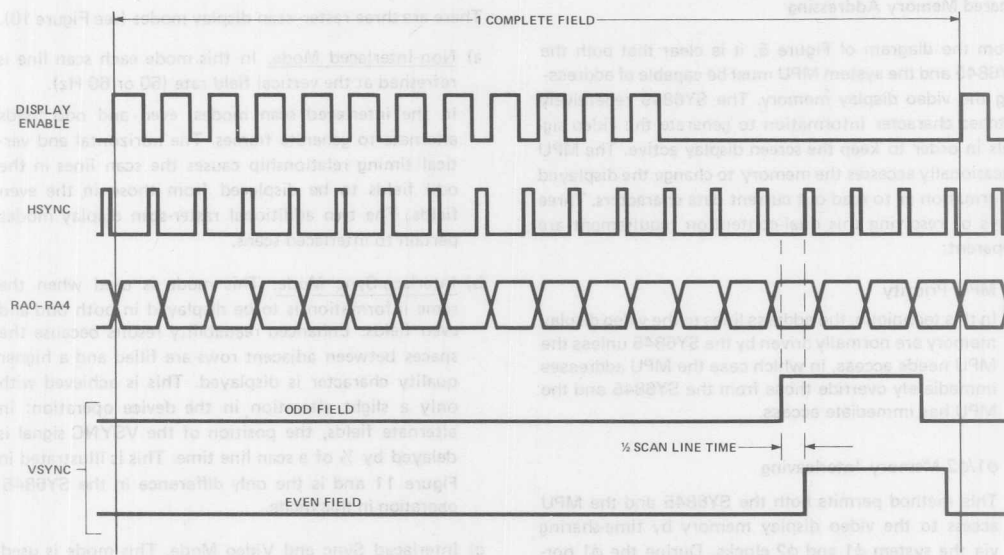

Figure 11. Interlace-Sync Mode Timing
- b) Interlace-Sync Mode. This mode is used when the same information is to be displayed in both odd and even fields. Enhanced readability results because the spaces between adjacent rows are filled and a higher quality character is displayed. This is achieved with only a slight alteration in the device operation: in alternate fields, the position of the VSYNC signal is delayed by $\frac{1}{2}$ of a scan line time. This is illustrated in Figure 11 and is the only difference in the SY6845 operation in this mode.